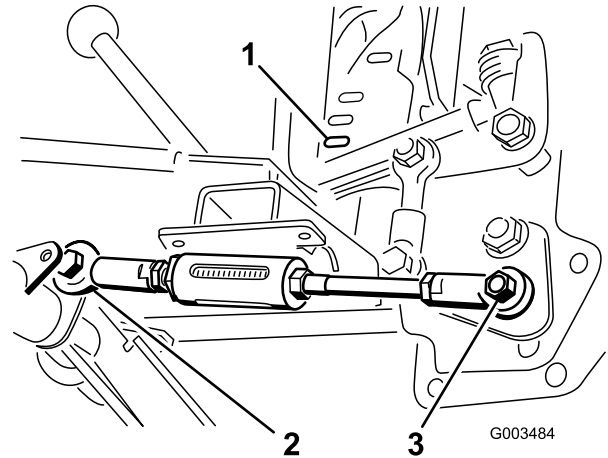

Figure 8
- Move the lift handle until the hole in the ball joint aligns with the hole on the right-side of the adjustable rod lever on the pivot tube, and secure the rod to the lever with a bolt (1/2 x 1-1/2 inches) and a locknut (1/2 inch) as shown in Figure 8.